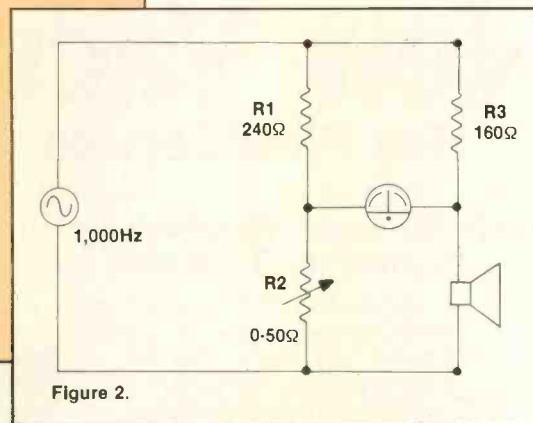

Figure 2.
- You want to determine the impedance of a speaker so you put the circuit of Figure 2 together and adjust R2 for
- After you have correctly adjusted R2 in the circuit of Figure 2, you remove it from the circuit and measure its resistance. If the speaker has an impedance of  $8\Omega$  the resistance of R2 should be approximately \_\_\_\_\_  $\Omega$ .